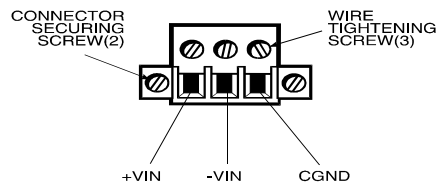

Figure 3-21. DC Power Connector
4. Insert the three wire ends of the power cable into the three holes of the block plug. Insert the Protective Earth GND ground, + (positive), and - (return) wires into the corresponding holes, as shown in Figure 3-21. Be sure that no bare wires are exposed.